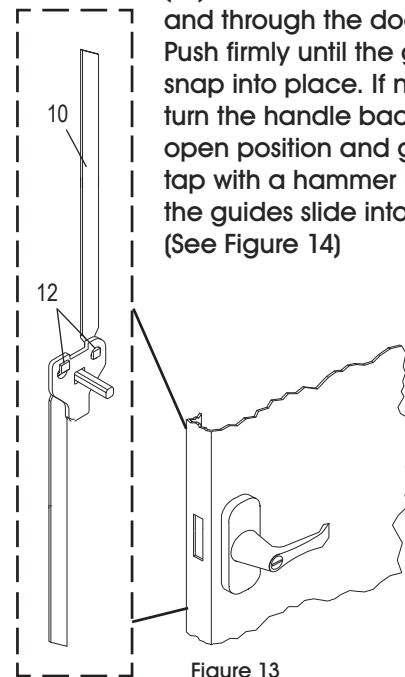

Figure 13
- With the handle still in the open position, hook the lock bars (10) to the locking cam. Once in position, slowly rotate the door handle to the closed position so the lock bars protrude from the holes at the top and bottom of the door. (See Figure 13)